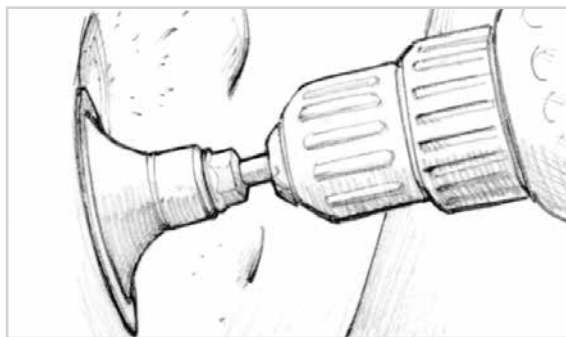

Figure 10-1 Use a small rotary tool chucked into a variable-speed drill to open the blisters.
2. Immediately open the blister cavities. Use a small sanding disk (such as 3M's Roloc™ 2" diameter sanding disk) with 60-grit sandpaper, chucked into a variable-speed drill (Figure 10-1). Make sure that you have removed the entire blister, including the edges of the blister dome. Complete the repair following the procedures in Section 12.